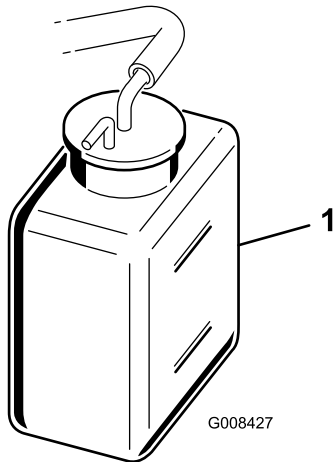

Figure 47
2. Check the coolant level (Figure 46 and Figure 47).